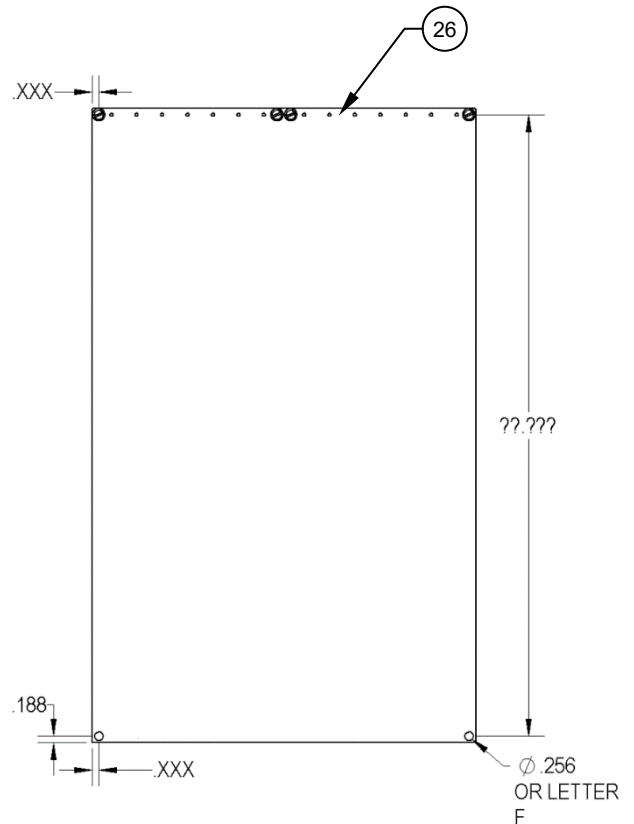

Figure 33
6.5.3. If you are cutting the Panel Mount Plate, Assy, (Item 25) for the first time follows steps 6.4.5 thru 6.4.9. When you use the Drill Template, Detail, (Item 42), use as in step 6.4.6, and then drill through the two omitted center holes and upsize to .256" letter F drill and countersink the backside $\text{\O} .327 \times 100^\circ$ for 2x Fastener, Panel, Stud, $\frac{1}{4}$ Turn, (Item 46). Then trim the length of the Panel Mount Plate, Assy, (Item 25), .188" past the center of the AFT row of fasteners. See Figures 33 & 34.